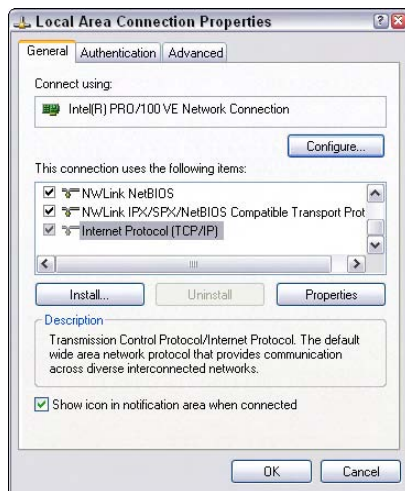

Figure 45-1: A list of the network protocols installed on this computer
4. Select and right-click the network connection identified as Local Area Connection, and select Properties from the pop-up menu. The Local Area Connection Properties dialog box opens, which lists the installed protocols. At the top of the dialog box, you should see your network adapter (such as the brand and model of your Ethernet card). If it is not listed, you need to get it set up before proceeding. Under the network adapter is a list of installed network protocols, similar to the list in Figure 45-1. Look through the list until you find the Internet (TCP/IP) Protocol. If you find it, double-click it to bring up the TCP/IP Properties dialog box. If you don't see the TCP/IP protocol anywhere, then you have to add it yourself in order to do network rendering.